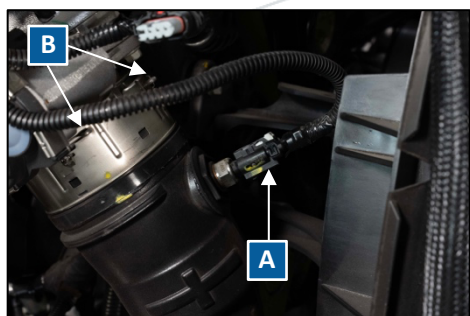

Figure 19: Charge Pipe
**28. Un plug IAT (Intake Air Temp) sensor on charge pipe from intercooler (labeled as A in Figure 19).**
**29. Remove charge pipe from intercooler to upper intake manifold by spreading retaining clips and set to the side (labeled as B in Figure 19).**